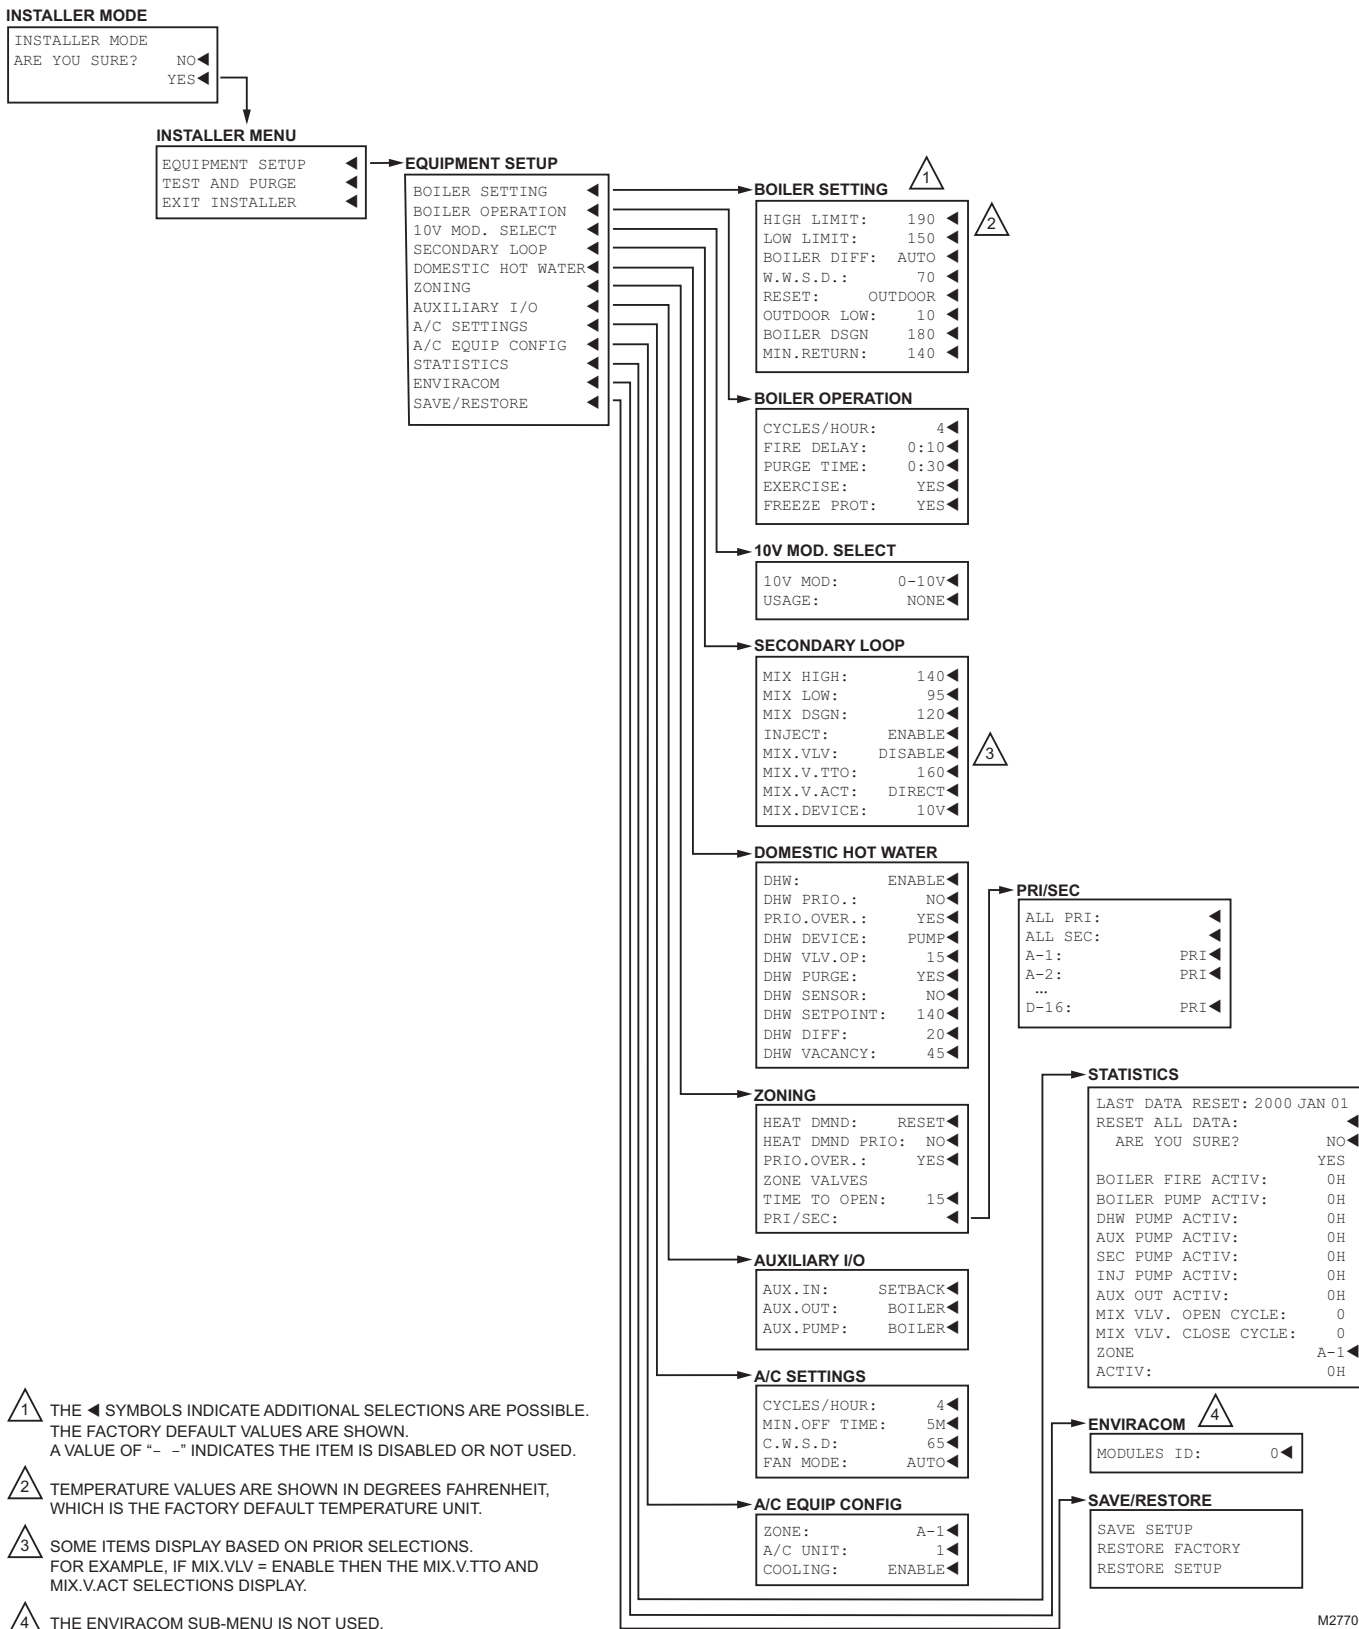
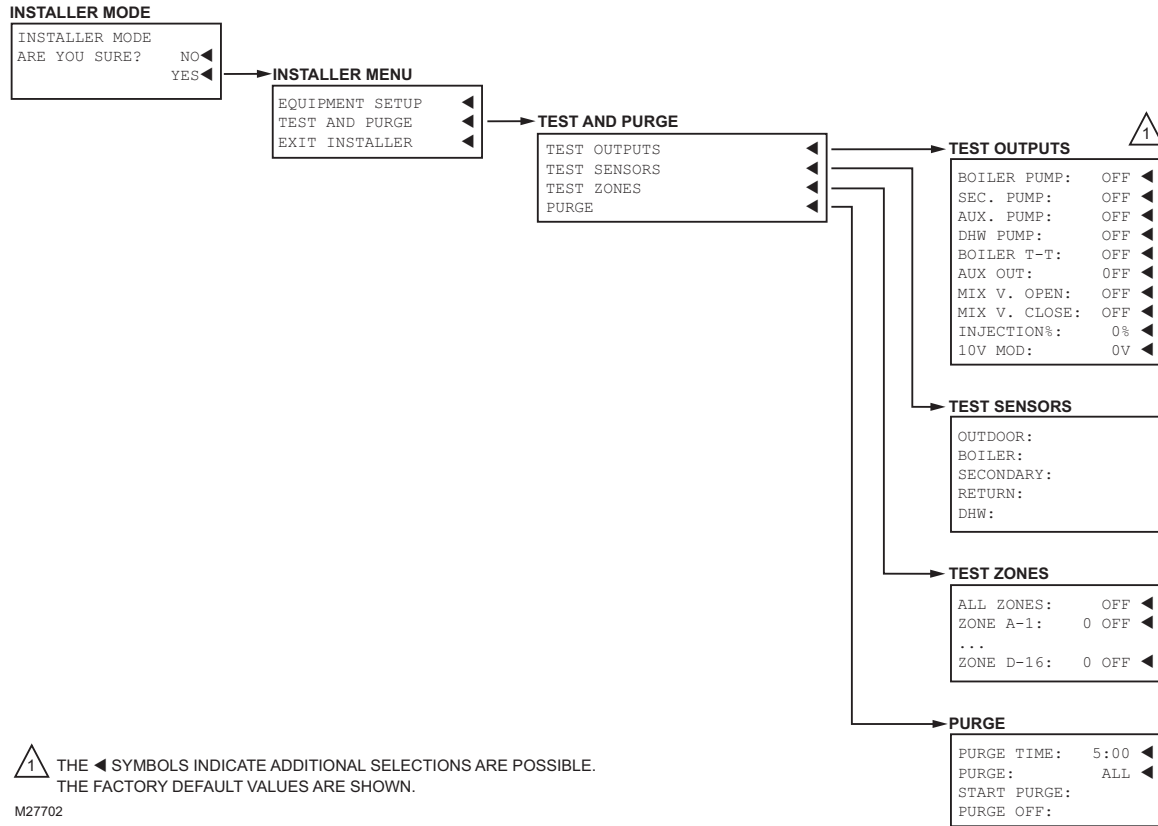

Fig. 25. Installer Menu Structure. – Equipment Setup.
Fig. 26. Installer Menu Structure. – Test and Purge.
- Installer Menu (see Fig. 25 on page 41)
To display the Installer Menu, go to the Home Page, press and hold the OK button for 3 seconds until the message INSTALLER MODE – ARE YOU SURE? displays. Select YES and press the OK button. Fig. 25 and Fig. 26 illustrate all possible Installer Menu selections.